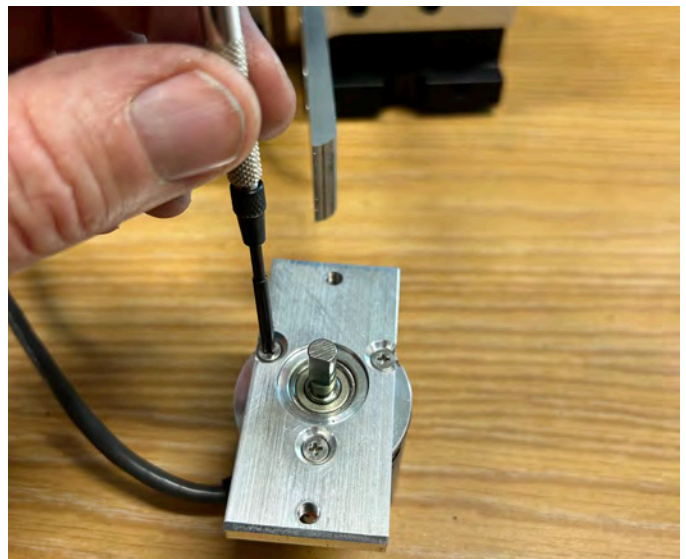

FIGURE 19
3. Use the (3) M3 x 0.5mm flat head screws (P/N 94011) to mount the mounting plate to the face of the encoder. Start all three screws first, then tighten each screw (see Figure 19).